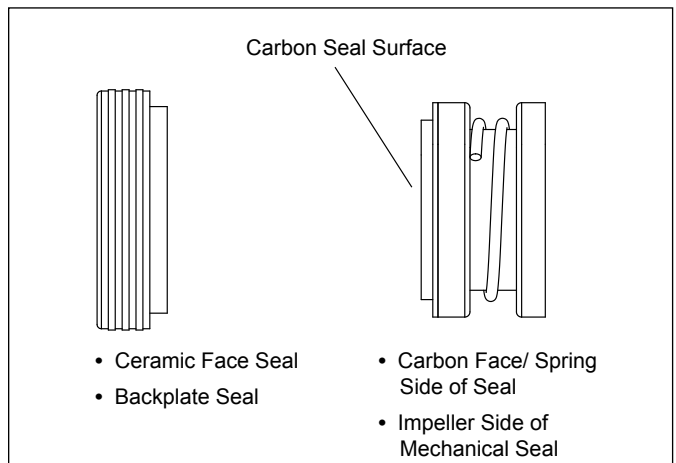

Figure 10. Mechanical Seal
1. Press the new carbon face seal half (see Figure 10) on the motor shaft using a twisting motion. Make sure the carbon surface is facing toward the ceramic ring in the backplate.